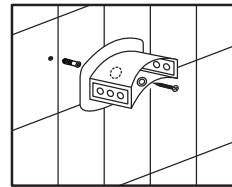

Figure B1
POSITION/APPLY 4 ADHESIVE 3M TAPE (29) AND 6 DABS OF THE PROVIDED GLUE (28) (FIGURE B1), EVENLY DISTRIBUTING ON THE FLAT SURFACE OF THE MOUNT. PLACE THE MOUNT AGAINST THE WALL AND APPLY FIRM PRESSURE FOR 30 SECONDS. ALLOW MINIMUM 24 HOURS TO CURE BEFORE INSTALLING THE UNIT.
11. Insert nylon anchors (16) into the holes. [Figure B]
12. Secure mounts (13) to wall with mounting screws (14) and metal washers (15). DO NOT OVERTIGHTEN. [Figure B]
13. Remove tape backing on escutcheon base (6), slide over nipple (1) and attach to wall. [Figure C]
- NOTE: Optional thin escutcheon (8) is for installations where the ABS escutcheon (6,7) interferes with desired mounting height of Bonzai. For best look with thin escutcheon (8), nipple should not extend more than $\frac{3}{4}$ " from wall surface.
14. Secure chrome 90° w/ cone washer (3) to nipple (2). DO NOT OVERTIGHTEN. [Figure C]
- NOTE: Cone washer is already installed on chrome 90° (3).
16. Determine length of supply line (9). Supply line must install completely over barbed portion of 90° connector (3). To shorten, remove Bonzai from wall, cut supply line with sharp utility knife and re-insert Bonzai into wall mounts.
17. Secure Bonzai to wall mounts (13) with screws (17). Choose holes that set Bonzai at desired distance from the wall. [Figure D]